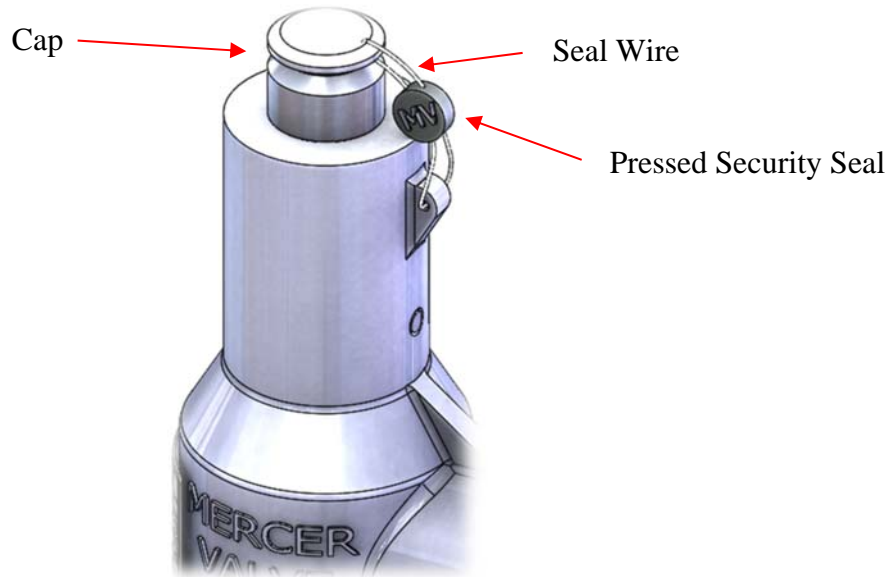

Figure 3: Typical Cap and Seal Wire
- **Cap and Seal Wire** – The valve cap and seal wire should be checked first on all inspections. These parts prevent adjustment tampering. On the seal wire, there is a pressed security seal that has an impression on it to indicate the certified company that last adjusted the set point of the valve. When this seal wire is cut or removed, it indicates that someone may have adjusted the set point or altered the valve. This voids any warranty the valve had. See Figure 3.